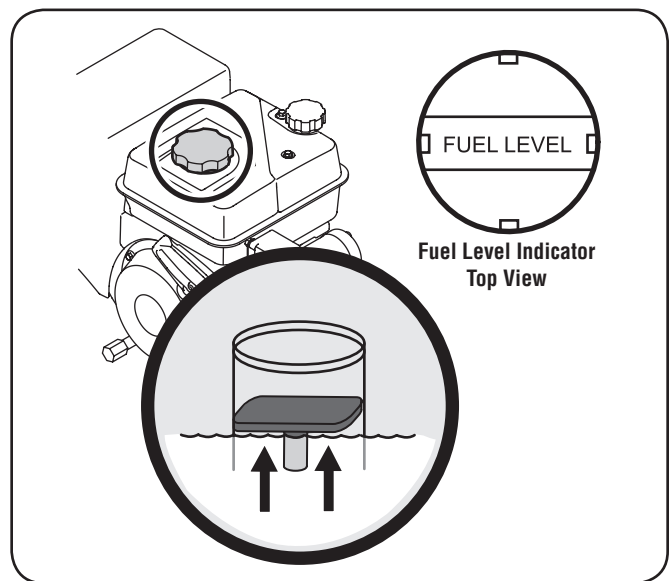

Figure 3-9
2. A fuel level indicator is located in the fuel tank. Fill tank until fuel reaches the fuel level indicator, Fig. 3-9. Be careful not to overfill.